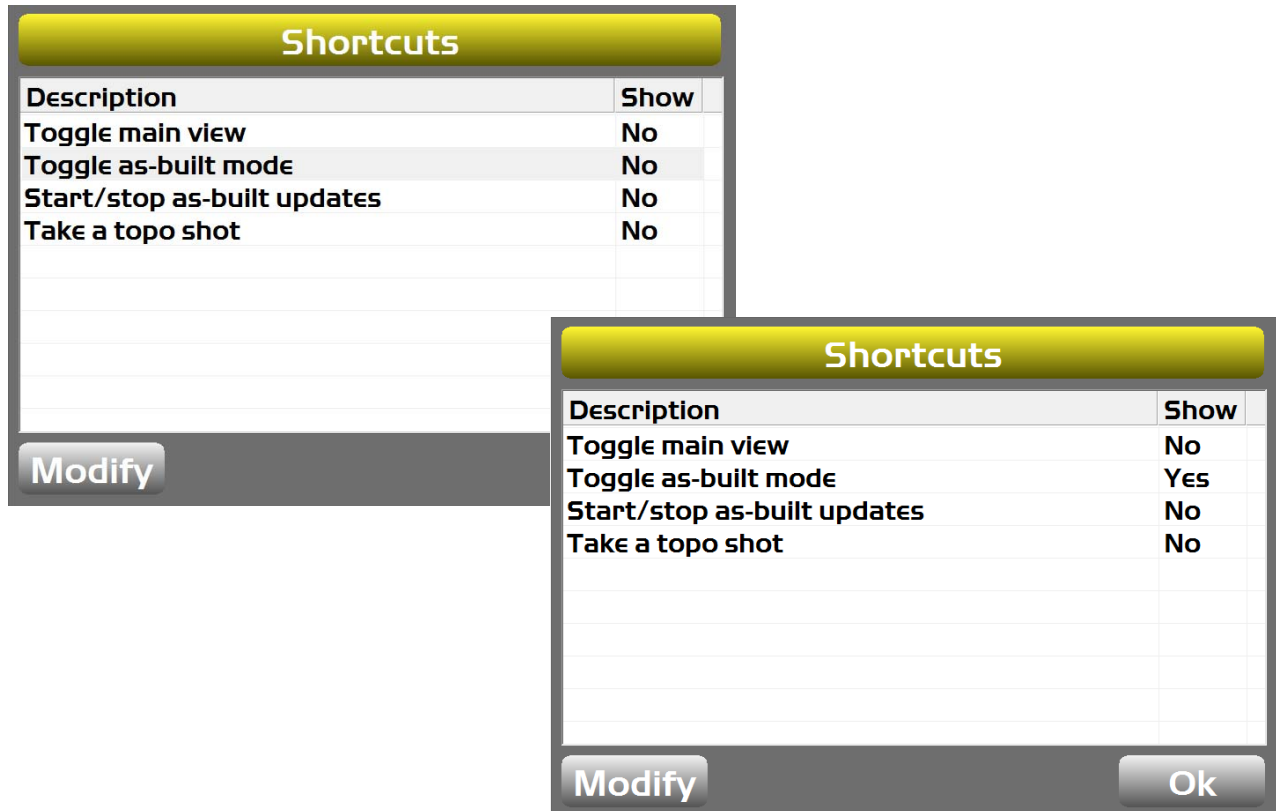

Figure 109: Shortcuts Screen
1. Press the Power button on the display, then tap **View ▶ Display options ▶ Shortcuts**. The **Shortcuts** screen appears (Figure 109).
In the example shown in Figure 109, **Toggle as-built mode** was enabled because the **Show** column displays **Yes**. More options are available depending on machine type and enabling Sitelink3D.